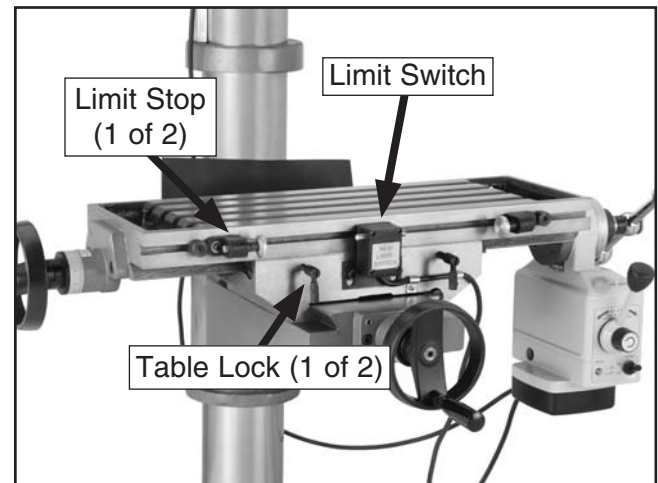

Figure 24. Table lock, limit switch, and limit stop.
1. Loosen the table locks (see **Figure 24**).